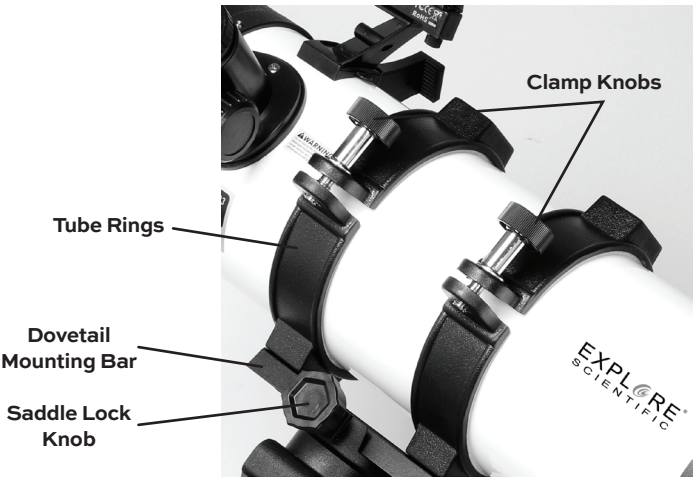

Figure 2.11
9. Grab the telescope with the tube rings (Item A). Make sure the rings that hold the telescope are secured and cannot move. You can tighten the rings by turning the clamp knobs (Figure 2.11). Do not overtighten.
Loosen the clamp knobs on the tube rings (Figure 2.11) until you can rotate the telescope tube by gripping it on both ends. When the focuser is in the position you want, tighten the clamp knobs. Do not overtighten.